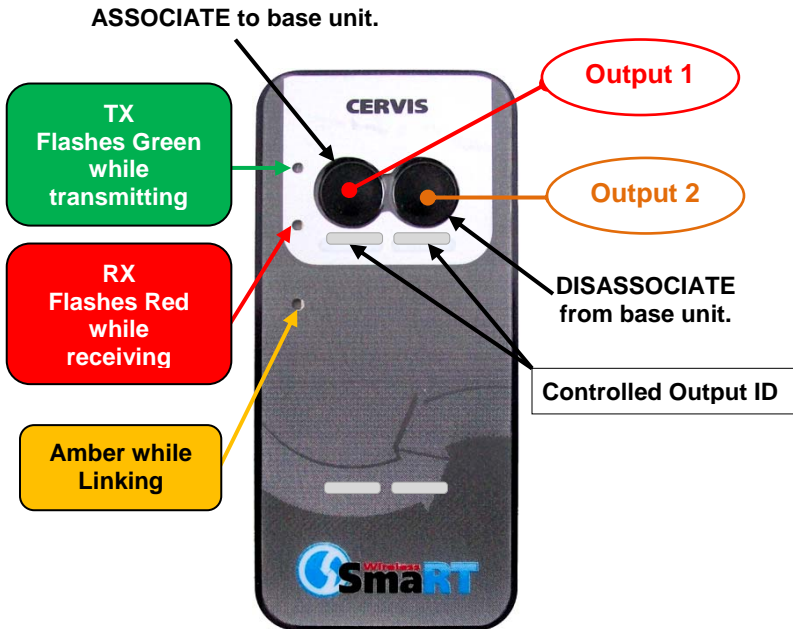

Figure 5. PTO-902 Front Panel
The front panel of the SmaRT PTO-902 Handheld Remote has two (2) push-to-operate buttons and three (3) diagnostic LEDs. PTO buttons 1 and 2 have dual functions as described in Figure 5.